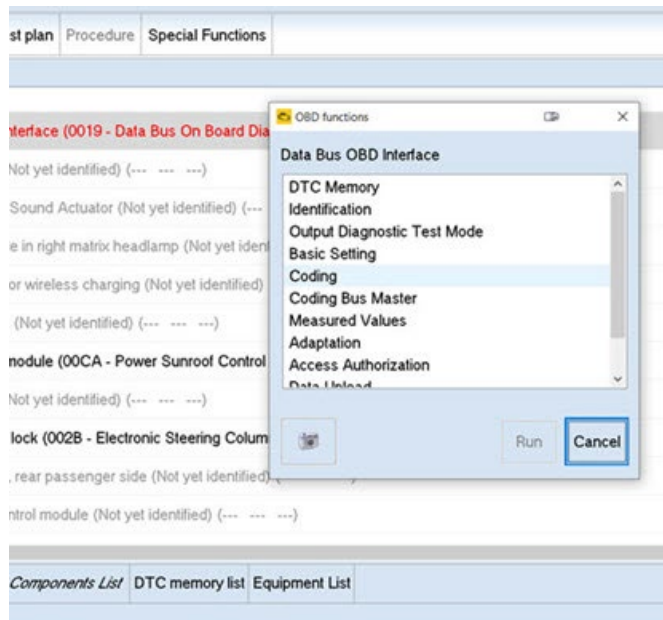

Figure 2: Coding from Self-Diagnosis.
3. Select “Coding” (not the installation coding) and view the coding for Byte 28 (Figure 2).